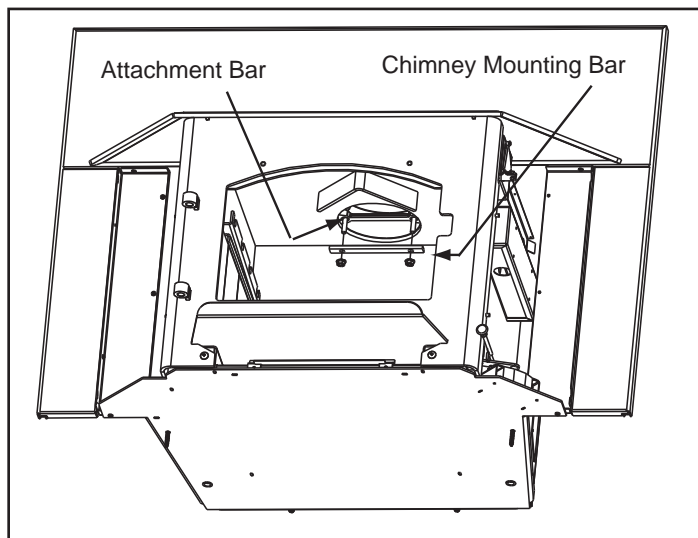

Figure 41.3
1. Once you have the appliance in place and secured, reach up through the flue opening and grab the attachment bar and pull down inside flue opening. **Figure 41.3.**